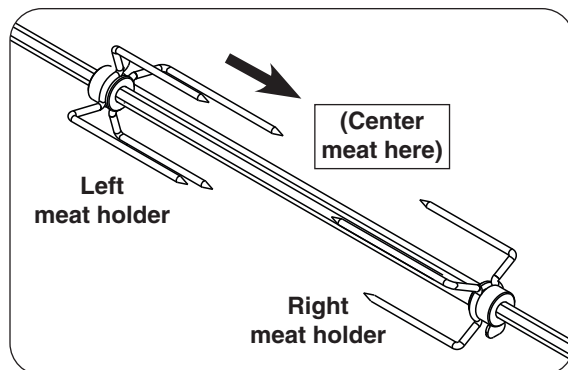

Fig. 21-4 Install meat holders
4. Slide right meat holder into position on rotisserie rod as shown in Fig. 21-4 and tighten screw.
5. Slide meat onto rod and into holder (Figs. 21-4).
6. Slide left meat holder onto rod and into meat (Fig. 21-4). Tighten thumb screw.